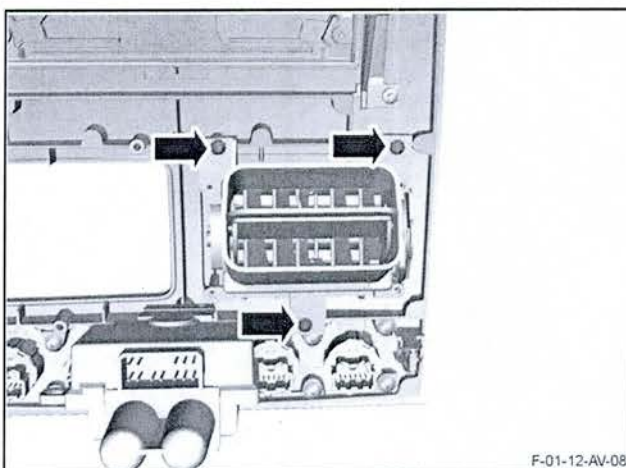

Figure 12
20. Install the left side heater vent. (refer to Figure 12).